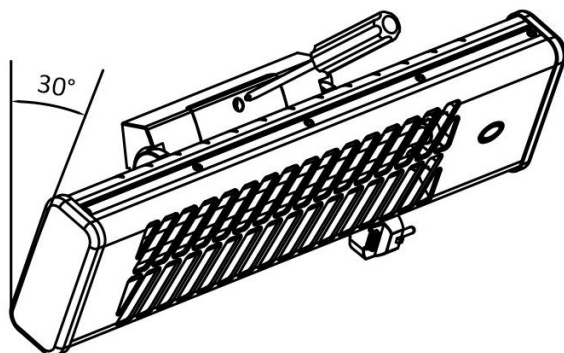

Fig.1
1. Loosen and remove the screws on the top and bottom of the wall mount. Take out the wall mount cover from the top of the heater. (See Fig. 1 & 2)